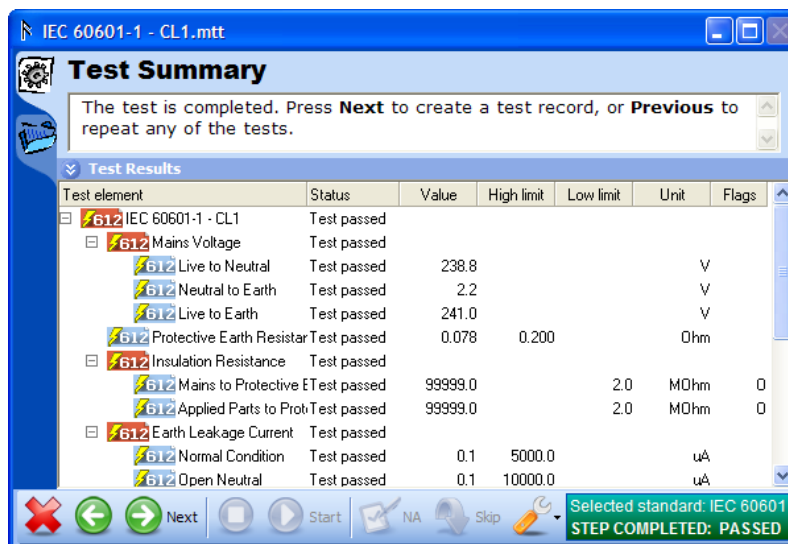

Figure 3-14. Test Summary Window
2. Click the Next button (➡) to open the Test Summary window as shown in Figure 3-14.